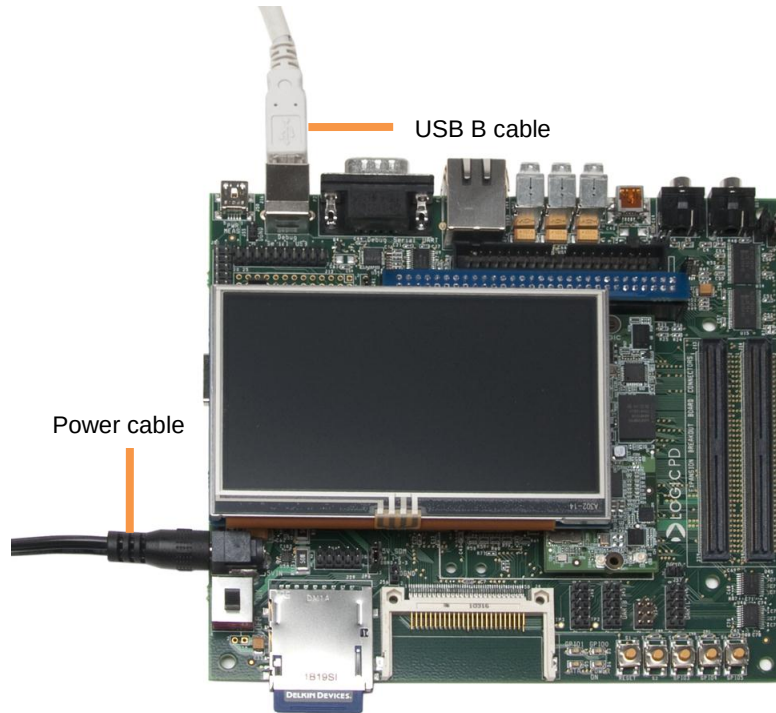

Figure 2.2: Connect USB B Cable
1. Connect the USB B cable to the debug UART USB B port on the baseboard and to an empty USB port on your PC. See Figure 2.2.
3. Plug the power adapter into an electrical outlet and the 5V line output connector into the power-in connector on the baseboard. See Figure 2.2.